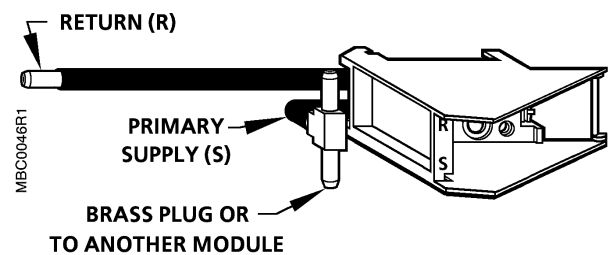

Figure 6. AO-P Connector Block Tubing Connections.
2. Insert a brass plug into the supply air extension of the last connector block. See Figure 6.
3. Connect the Return line from the controlled device to the Return port (R) of the AO-P connector block.
**NOTE:** To eliminate oscillation in the line, a minimum of 30 inches of 1/4-inch tubing is required between the AO-P return (R) port and the controlled device.